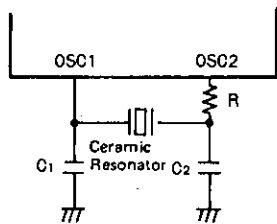

Fig. 2 Ceramic Resonator Oscillation Circuit
**Note 1:** When oscillated internally under the oscillating conditions in Fig. 2, up to the oscillation amplitude generated is allowable.